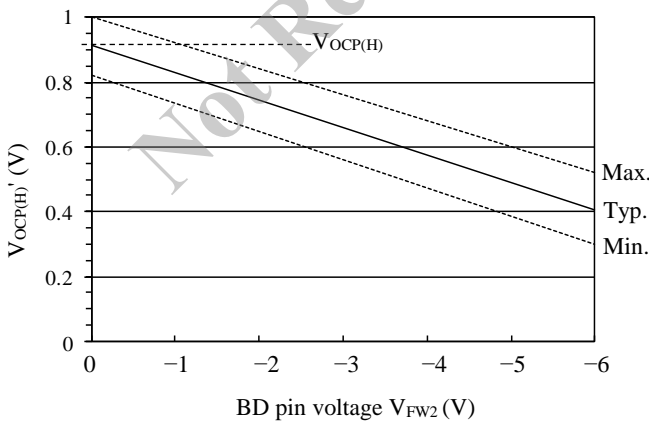

Figure 9-28 Overcurrent threshold voltage after input compensation,  $V_{OCP(H)'}$  (reference for design target values)
- 4)  $V_{OCP(H)'}$  is the overcurrent threshold voltage after input compensation. Figure 9-28 shows a relationship of  $V_{OCP(H)'}$  and BD pin voltage,  $V_{FW2}$ .  $V_{FW2}$  at maximum AC input voltage is calculated by using Equation (7).  $V_{OCP(H)'}$  and this variation are gotten by using the result from Figure 9-28. When  $V_{OCP(H)'}$  including variation becomes the Bottom-Skip Operation Threshold Voltage 1,  $V_{OCP(BS1)} = 0.572$  V, or less, the operation of IC is one bottom-skip only and the output current may be less than target output current,  $I_{OUT}$ .
Referring to Figure 9-28, when  $V_{FW2}$  is compensated to  $-2.92 \text{ V}$ , the overcurrent threshold voltage after input compensation,  $V_{OCP(H)}$ , is set to about  $0.66 \text{ V}$  (typ).